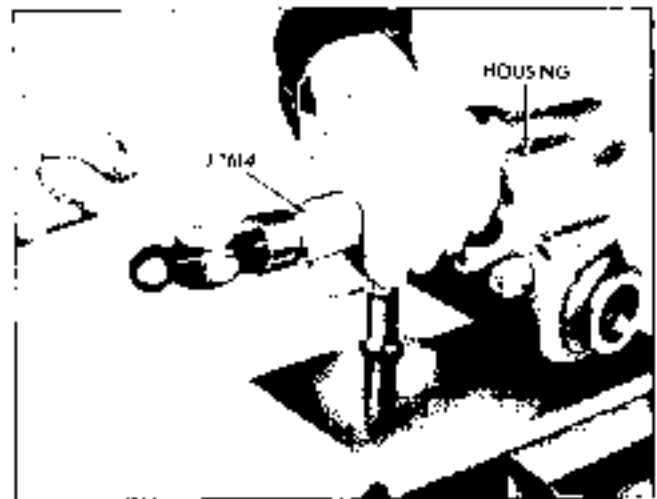

Fig. 9-42 Removing Pitman Shaft Bushing
2. Drive out bushing with tool J 1614 (Fig. 9-42).